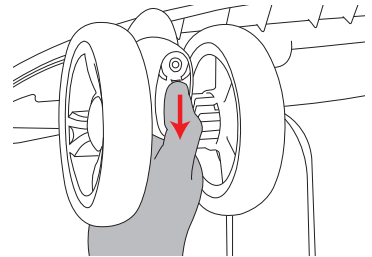

Figure 9
- To remove a front wheel set, press the tab at the bottom of the front wheel housing downward and slide the wheel set off of the plastic post. See Figure 9.